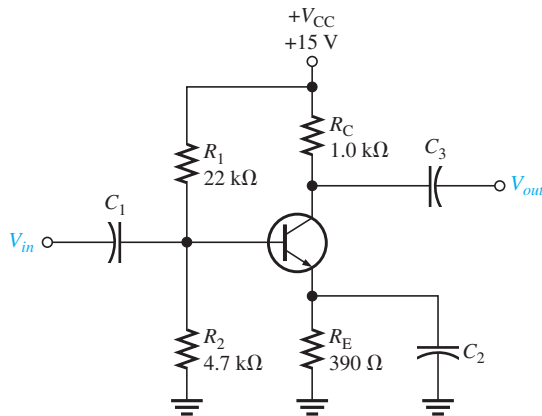

FIGURE 3-74
21. Determine the dc voltages, V_B , V_E , and V_C , with respect to ground in Figure 3-74.
22. Determine the voltage gain for the CE amplifier in Figure 3-74.